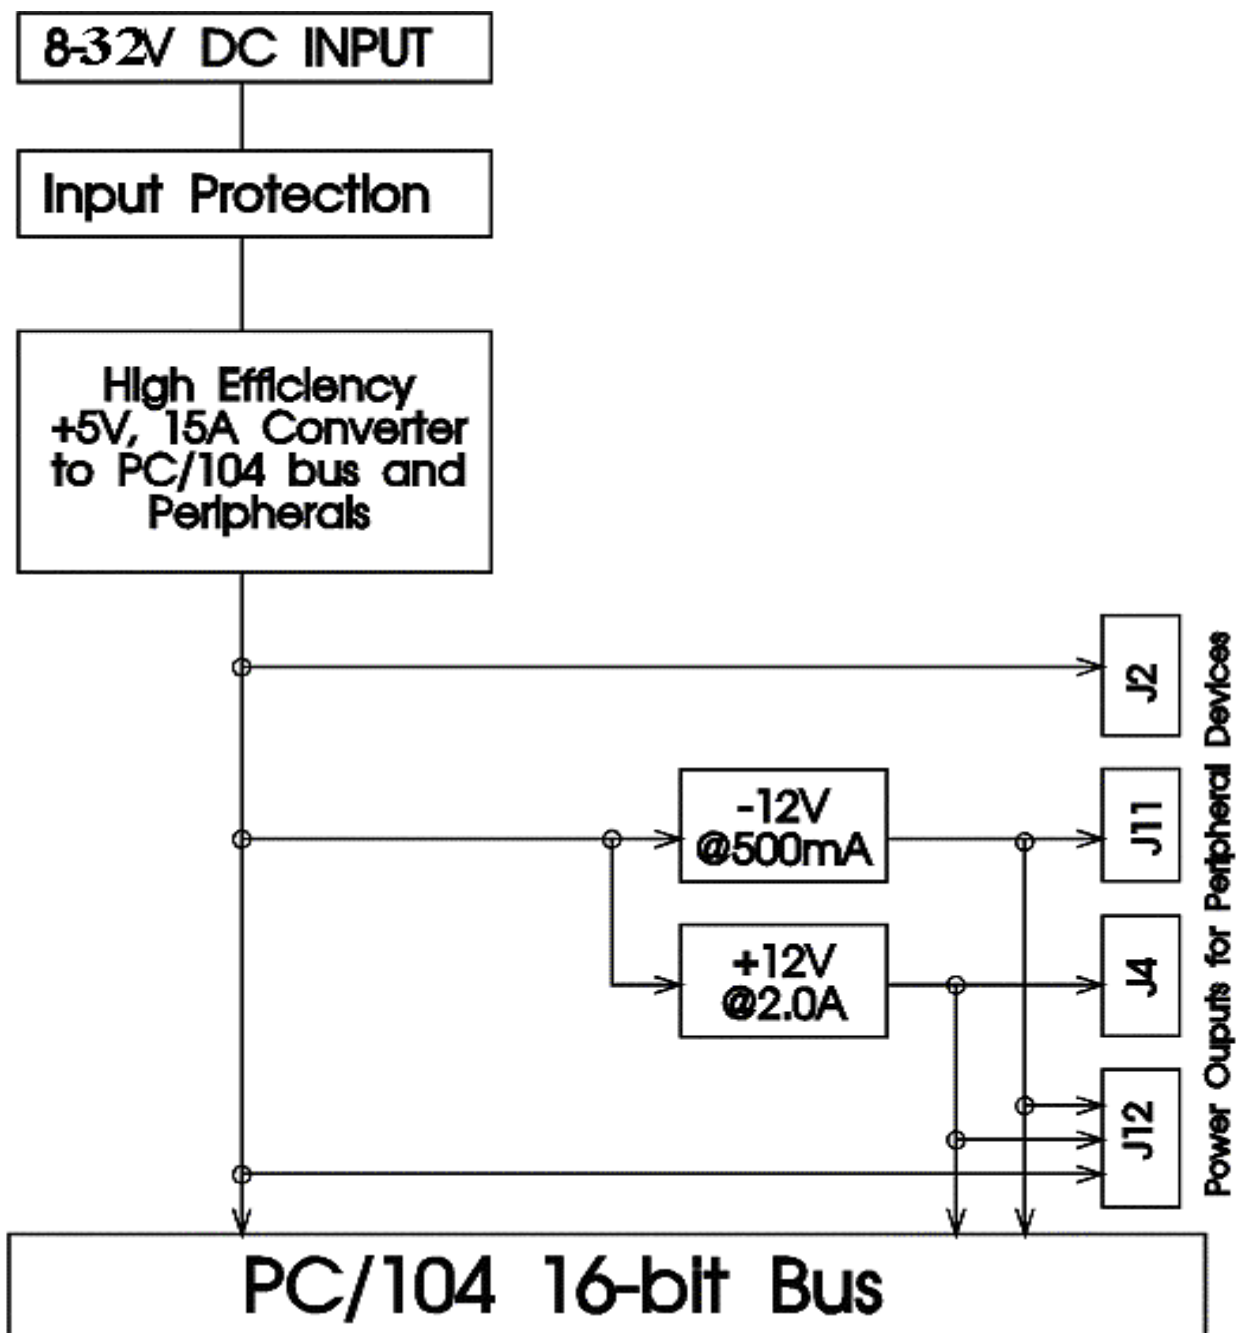

Fig. 3-1 Block diagram of the HPWR104HR
- Fig. 3-1:        HPWR104HR Block diagram**